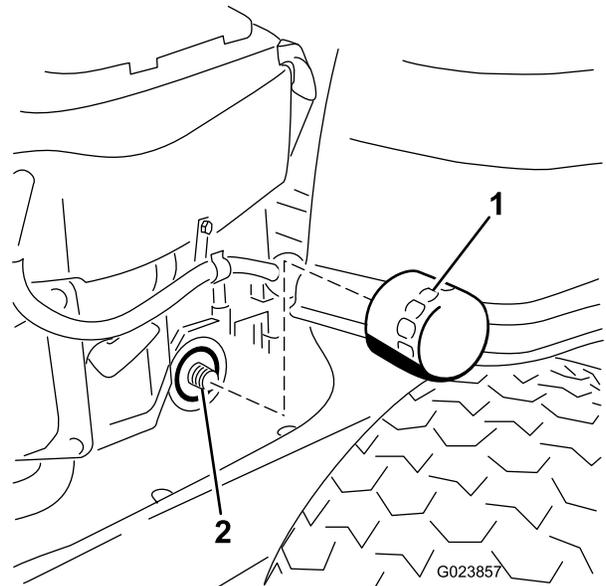

Figure 31
- Locate the oil filter on the right side of the engine. Remove the old filter and wipe off the filter adapter with a clean cloth (Figure 31).
the pad, then tighten the filter an additional 3/4 to 1 turn (Figure 31). Wipe up any excess oil on the frame.